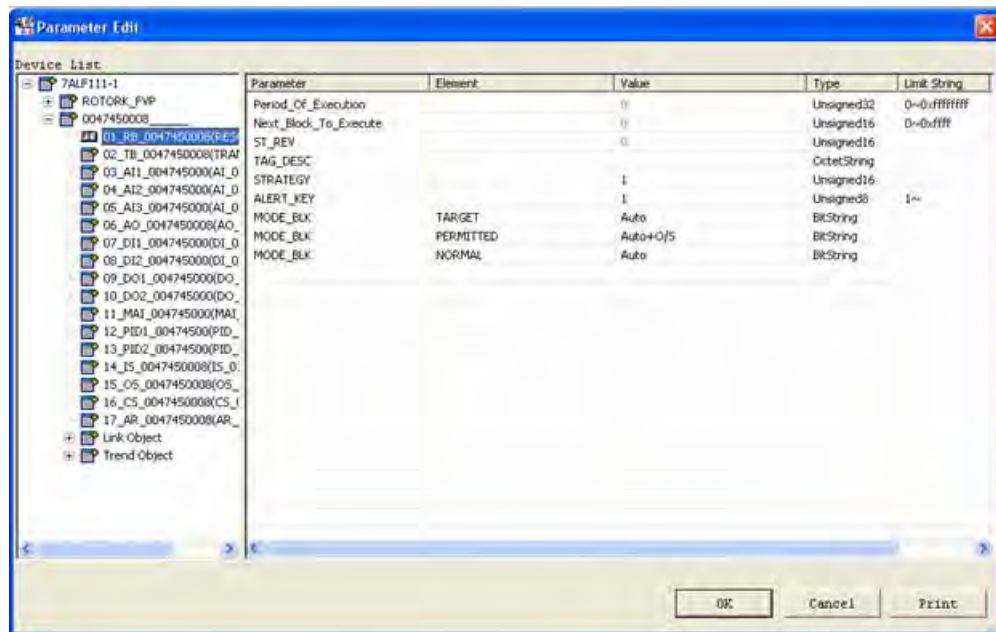

Figure 79 Parameter Edit Window
1. In *Fieldbus Builder* select **Tools->Edit block parameters** menu to open the *Parameter Edit* window (Figure 79).